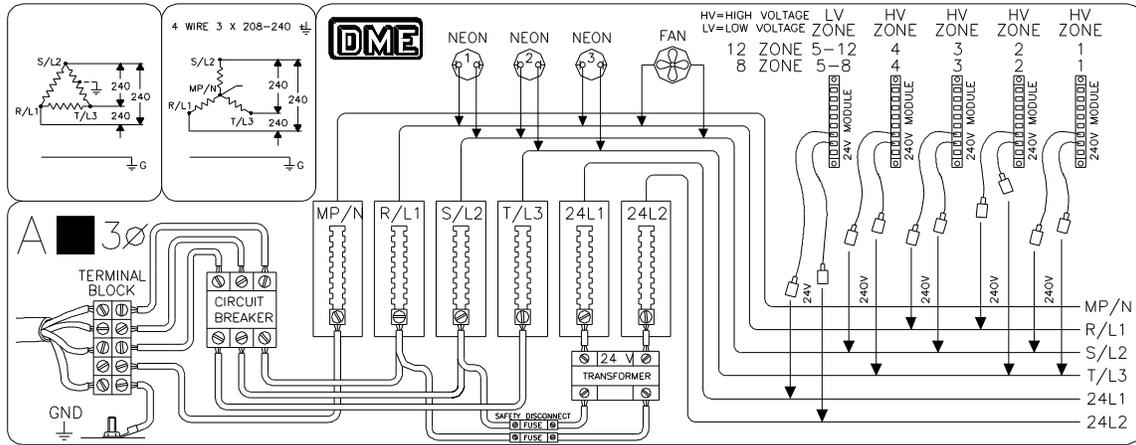

Figure 12 - Back Panel Wiring, Diagram A
- a) For 208-240 VAC, 3 phase, refer to figure 12.